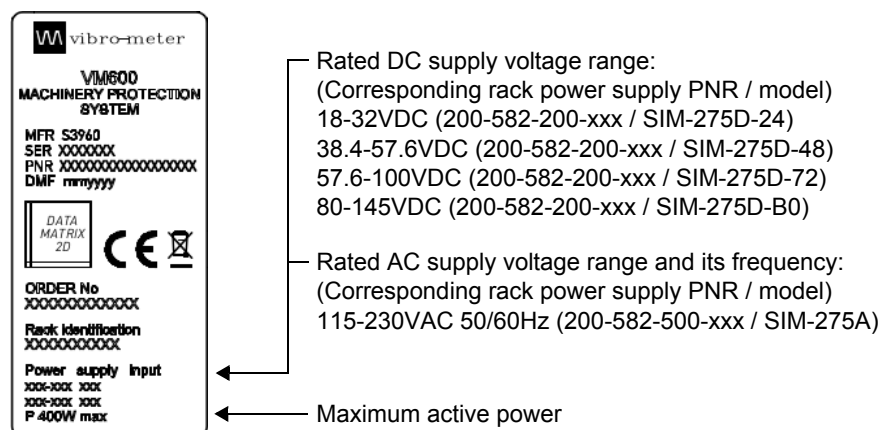

Figure 2-31: Example VM600SYS label (earlier versions of VM600 system racks)
- For earlier versions of VM600 system racks, a VM600SYS label on a rear panel provides the specifications for the RPS6U power supply inputs and additional information about the VM600 system such as order number (see Figure 2-31).